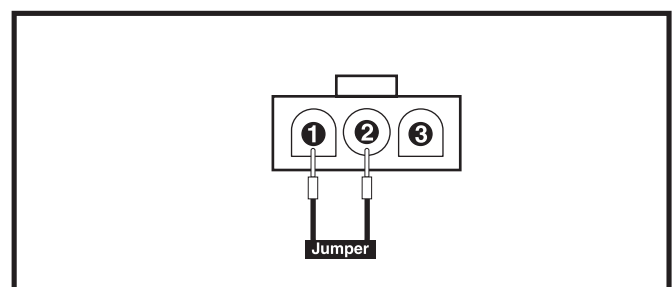

Figure 15. Connector 7b - Jumpered
6. Place a jumper into pin 1 and pin 2 on connector 7b, then try to operate the chair. **See figure 15.**
- *If the chair operates, then replace the onboard battery charger (6) and retest the system.*